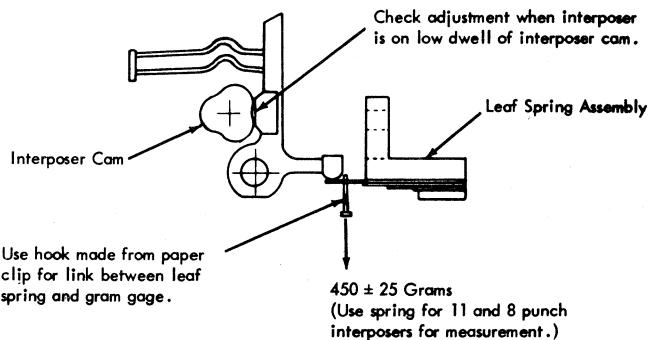

Figure 4-40. Interposer Leaf Spring Assembly Adjustment
2. Turn punch mechanism so interposer cam follower shoes are fully actuated by low dwell of interposer cam. Adjust leaf spring assembly so 450 ± 25 grams tension is required to break a leaf spring away from the point of contact with its associated interposer. Use the 11 and the 8 interposer leaf springs to check this adjustment. Figure 4-40 indicates the point on the springs at which tension measurement is made.